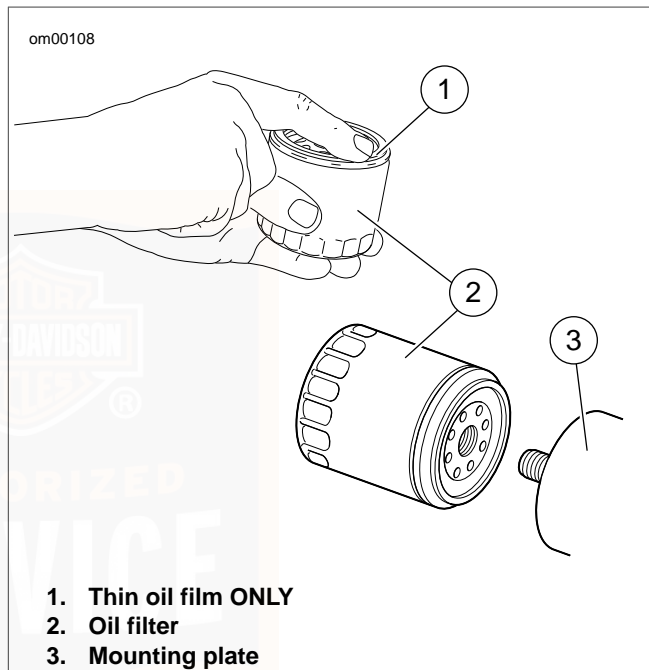

Figure 50. Applying Thin Oil Film
6. See Figure 50. Apply a thin film of oil to gasket contact surface on mounting plate, gasket and new oil filter.